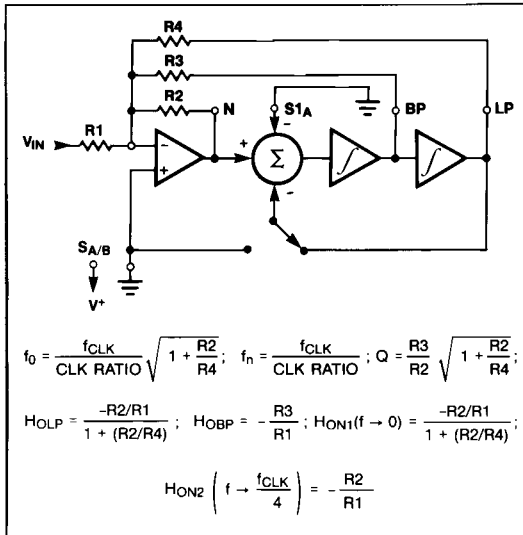

Figure 10. Mode 2: 2nd-Order Filter Providing Notch, Bandpass, Lowpass
**MODE 2** (Figure 10) can be used for elliptic highpass filters using the "N" output. Here  $f_N$  (the zero frequency) is less than  $f_0$ .
**MODE 2, 2A, and 2B** (Figures 10, 11, 12) are useful when cascading 2nd-order functions to form high-order notches.  $f_N$  may be independently tuned with resistors to a frequency below  $f_0$ . These modes are slower than Mode 1 notches but also exhibit lower noise.